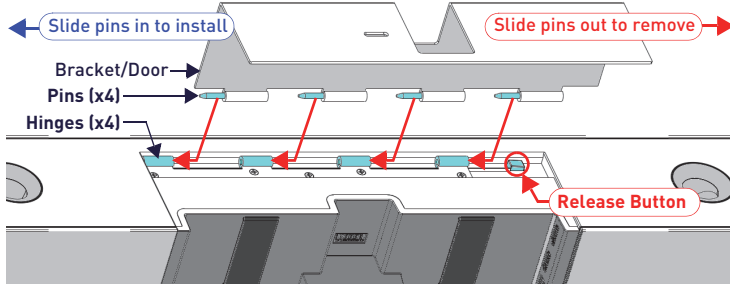

FIG. 3 ACV-2100 BOTTOM VIEW - REMOVING THE WALL MOUNT BRACKET
- Lift the Wall Mount Bracket off of the hinges to remove (FIG. 3):
- Attach the ACV-2100 to the Bracket/Door by sliding the pins on the bracket into the hinges on the rear of the main unit (see FIG. 3):
- Carefully slide the pins into the hinges, until the bracket/door snaps into place. **Note:** Press the door into place so that the last pin depresses the Release Button, allowing the pins to slide into the hinges (see FIG. 3).